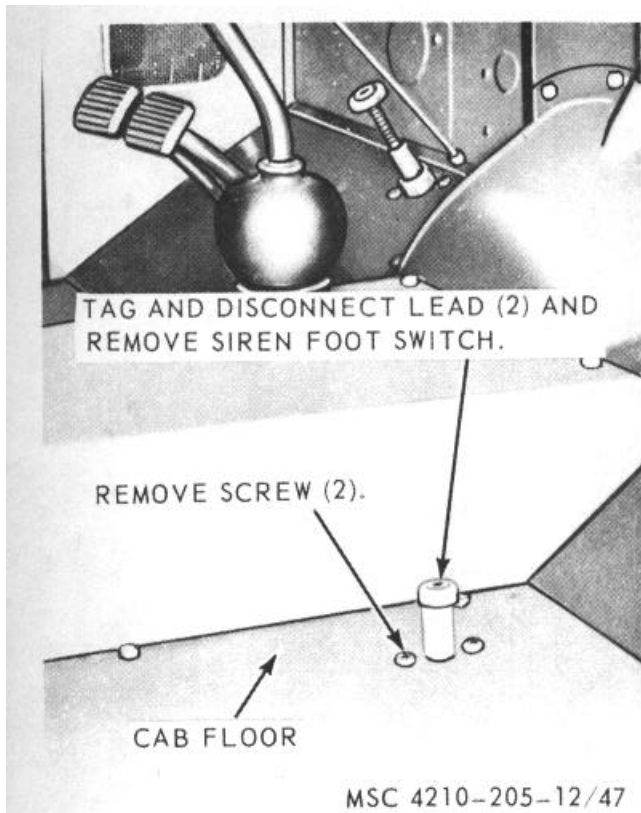

Figure 47. Siren foot switch, removal and installation.
a. *Removal.* Refer to figure 47, and remove the beacon warning light switch from the instrument panel.
- (1) Clean all parts with a clean cloth dampened in an approved cleaning solvent, and dry thoroughly.
- (2) Inspect all parts for damaged or defective condition.
- (3) Replace or repair damaged or defective parts as necessary.
c. *Installation.* Refer to figure 47, and remove the siren light switch from the instrument. Panel.